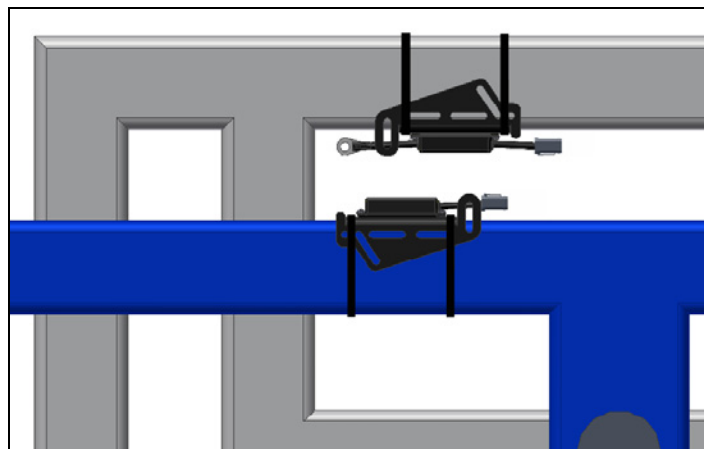

Figure 13: Inverted Chassis Roll Sensor Mounting on a Center Pivot Suspended Boom
5. The chassis roll sensor can also be mounted inverted to minimize the distance between the roll sensors (**Figure 13**).